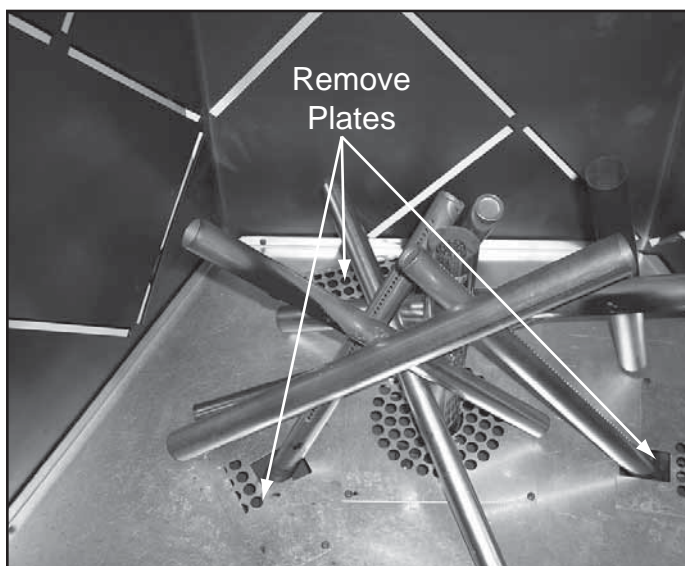

Figure 15.3 Remove Three Plates
- Remove three cover plates by removing two screws from each plate. See Figure 15.3.